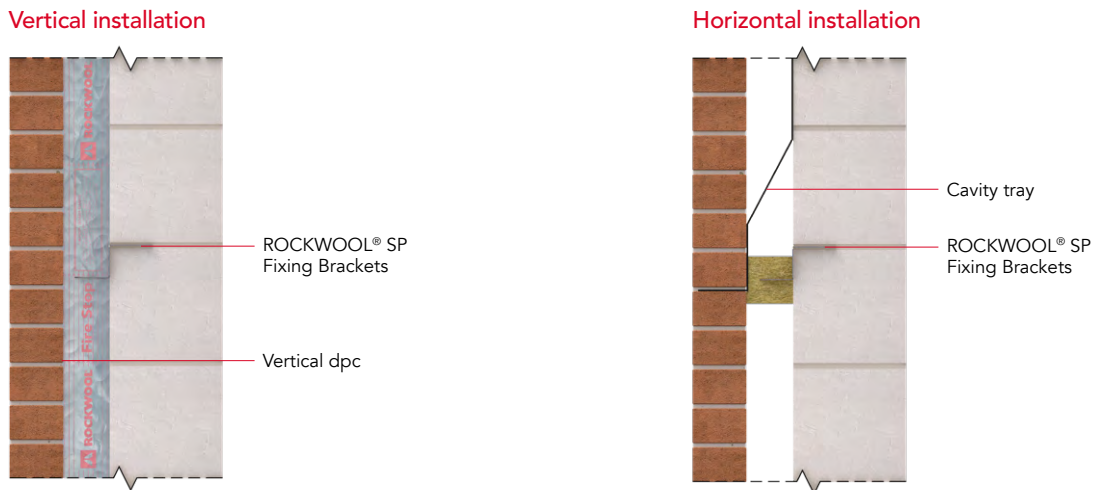

Figure 5
8. Work on both leaves can then be continued and must include either a vertical damp proof course (vertical installation) or a cavity tray (horizontal installation) installed over the SP FireStop Slab as shown in Figure 5.